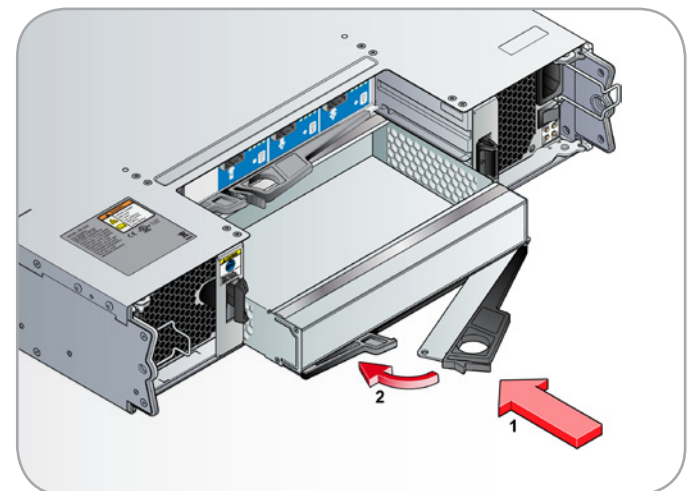

Fig. 82 - Installing and Latching the Blank I/O Module
1. With the latch in the open position, slide the module into the enclosure until the latch engages. (Fig. 82)